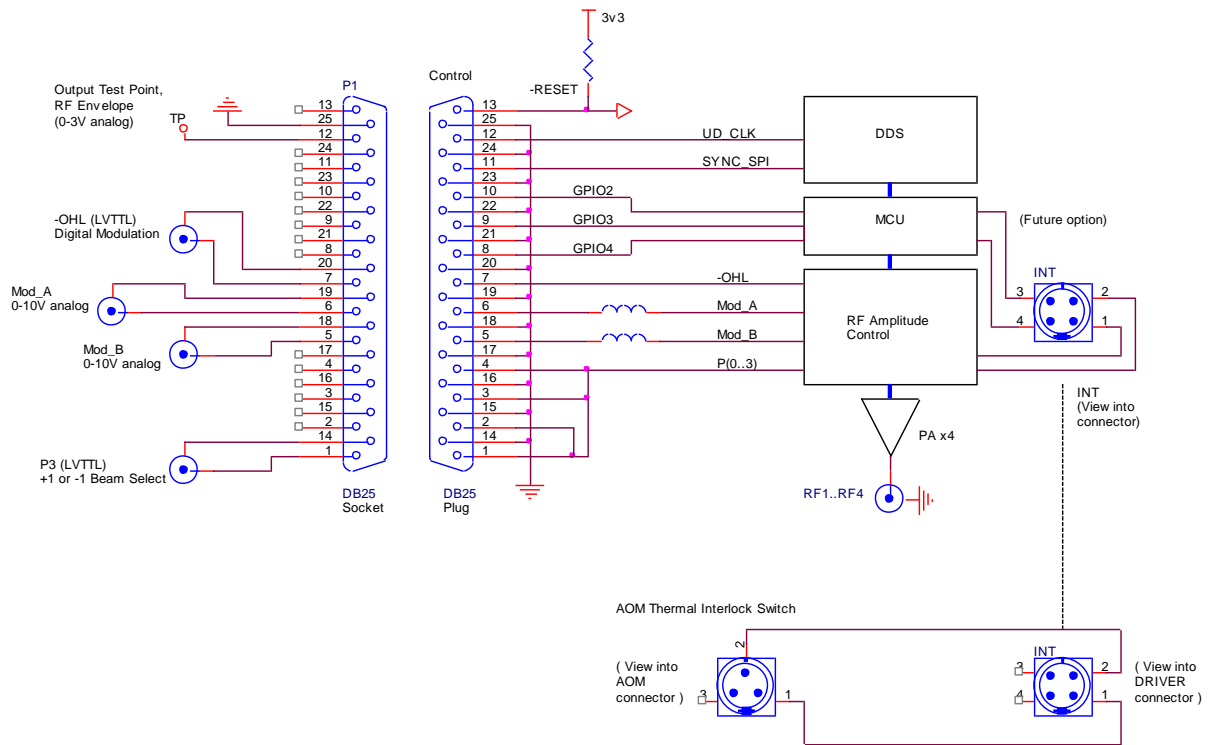

Figure 3:
- 3.4 Connect the Interlock of the acousto-optic modulator (mini 3-pin snap connector) to the RF driver "INT" input (mini 4-pin snap connector). Connections shown in Fig 3
See Fig 3